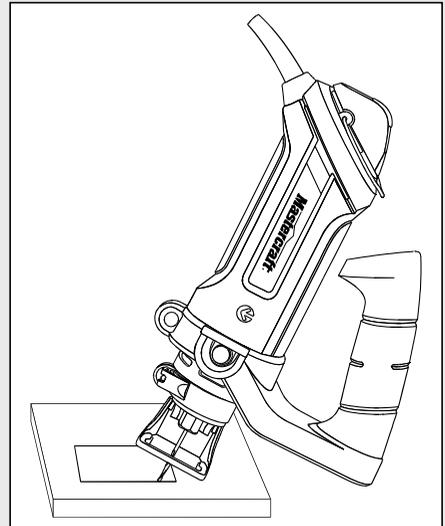

Fig. 8
6. Rest the edge of the cutting guide on the workpiece with the bit at an angle of about 45° (Fig. 8).